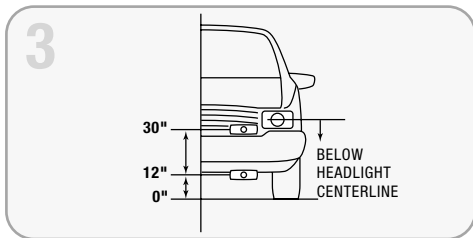

FIGURE 3
- They must also be mounted so there is a distance of between 12 and 30 inches from the ground to the center of the lamp (FIGURE 3).